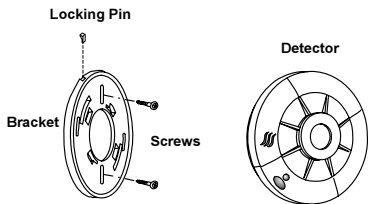

Figure 7: Smoke Detector Installation
Read the “Where To Install Your Smoke Detector” and “Where Not To Install Your Smoke Detectors” sections in this Manual before installing. To install the detector, perform the following steps (see *Figure 7*).
- ◆ Remove locking pin securing the mounting bracket to the unit (see Figure 7).
- ◆ Using screws (supplied) attach the bracket to the wall as in Figure 7.
- ◆ Insert the locking pin in order to secure the mounting bracket to the detector (see figure 7).